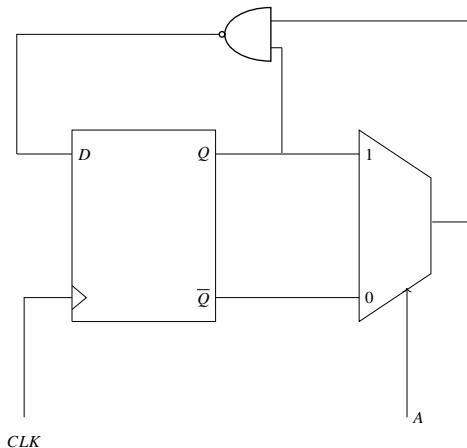

Fig. 6.5
4. The state transition diagram for the circuit shown in Fig. 6.5 is (GATE IN 2019)